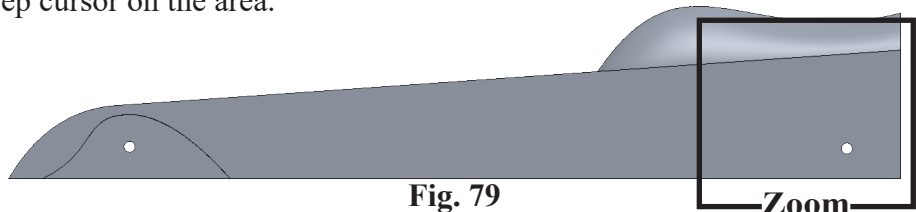

Fig. 79
Step 3. Zoom in around **rear axle hole**, **Fig. 79**. To zoom, place the cursor over the rear axle hole area and spin the wheel on mouse back. While spinning the wheel keep cursor on the area.